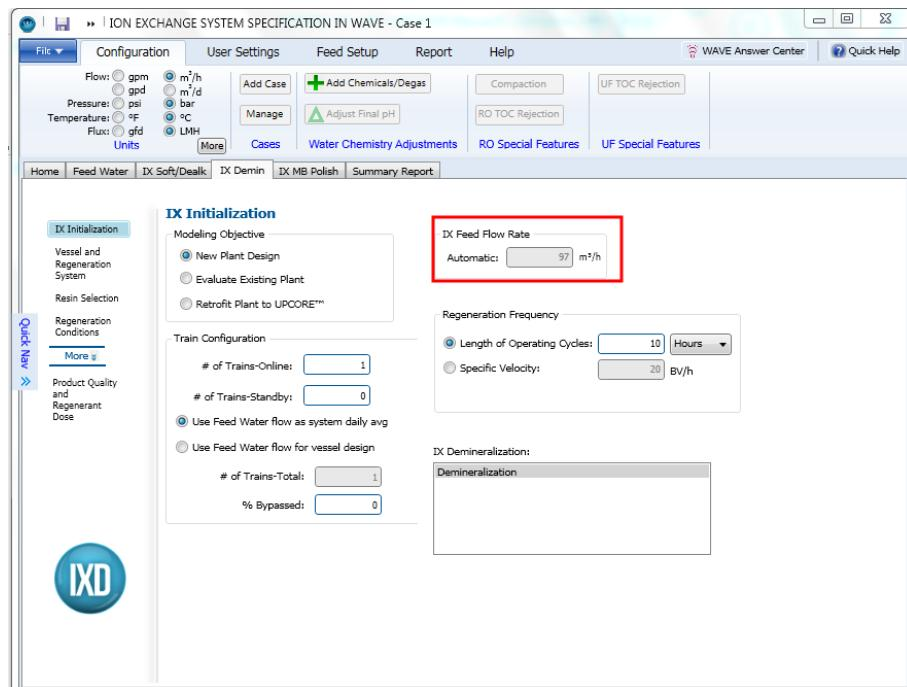

Figure 162. IX Initialization Window. IX Feed Flow Rate
- The IX Feed Flow Rate: If the Feed Water is specified in the Home tab (see Figure 162).